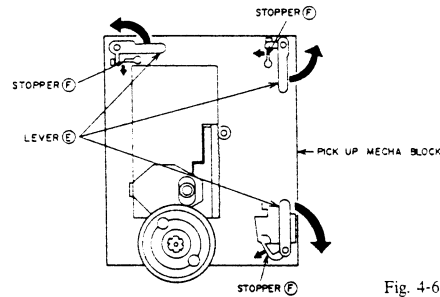

Fig. 4-6
- 1) Turn the LEVERS ㉞ while releasing the STOPPERS ㉟ as shown Fig.4-6.